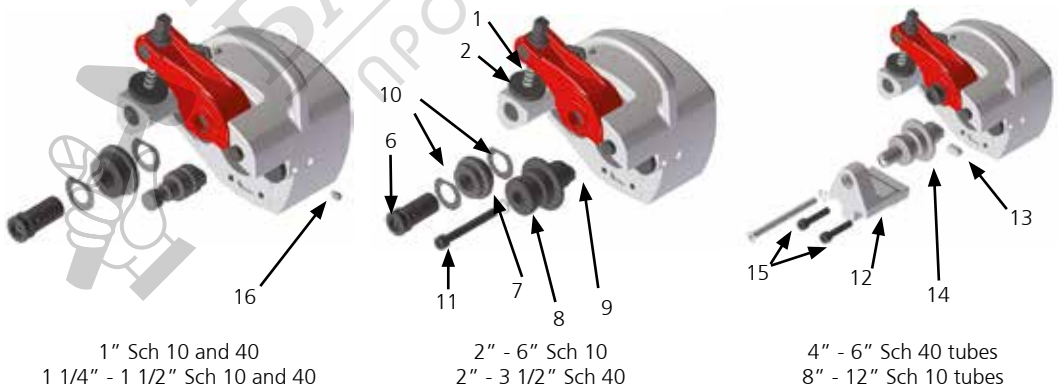

Figure 4
- On a workbench or on the floor, rotate the guide screw anti-clockwise to "lift" the upper roller (see figure 4, n.7) completely from the lathe screw (see figure 4, n.8).
- Loosen the fixing stud from the roller slide (see figure 4, n.9) and remove the roller shaft (see figure 4, n.6).
- Remove the upper roller and the adjusting washers (see figure 4, n.10) from the roller slide.
- Loosen the screw from the lathe screw (see figure 4, n.11).
- If the new lathe screw is for 1 or 1^{1/4} - 1^{1/2} inch tubes, secure it by tightening the screw (see figure 4, n.16).
- If the new lathe screw is for 4 to 6 inch Sch 40 tubes, or 8 to 12 inch Sch 10 tubes (see figure 4, n.14), place the lathe screw support (see figure 4, n.12) and secure it by using the pin as a guide (see figure 4, n.13) and tightening the screws (see figure 4, n.15).